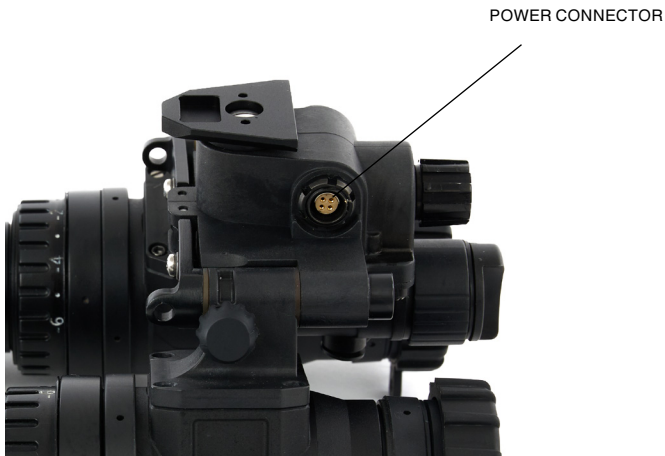

FIGURE 2.26. POWER CONNECTOR POWER CONNECTOR
- (1) Install (4) CR123 batteries into the battery holder.
- (2) Attach the battery holder to the rear of the helmet or headgear.
- (3) Run the power cord from the battery holder to the NVG.
- (4) Plug the power cord into the NVG (Figure 2.26).